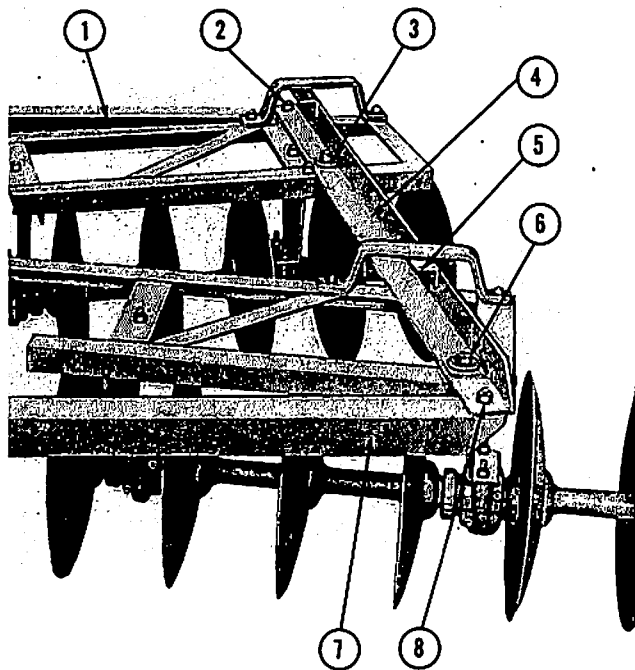

Figure 2
- b. Hold the gang frames in an upright position and insert the outer right frame member (4), Figure 2, through the front and rear gang retainers. Install the outer left frame member in the same manner. The frame members should be assembled with the wear angles (See 5, Figure 2) on top and toward the center of the harrow as shown.
- c. Attach both outer frame members to the front and rear gangs with the $\frac{1}{2}$ " x $1\frac{3}{4}$ " bolts, $\frac{5}{8}$ " x $\frac{7}{8}$ " spacers, $1\frac{3}{4}$ " x $\frac{3}{16}$ " flatwashers and the locknuts provided. See (3) and (6), Figure 2.
- d. Attach the front frame member (1), Figure 2, to the underside of the outer frame members with two $\frac{1}{2}$ " x $1\frac{1}{4}$ " bolts and locknuts (2).
- e. Attach the rear frame member (7), Figure 2, to the underside of the outer frame members with two $\frac{1}{2}$ " x $1\frac{1}{4}$ " bolts and locknuts (8).